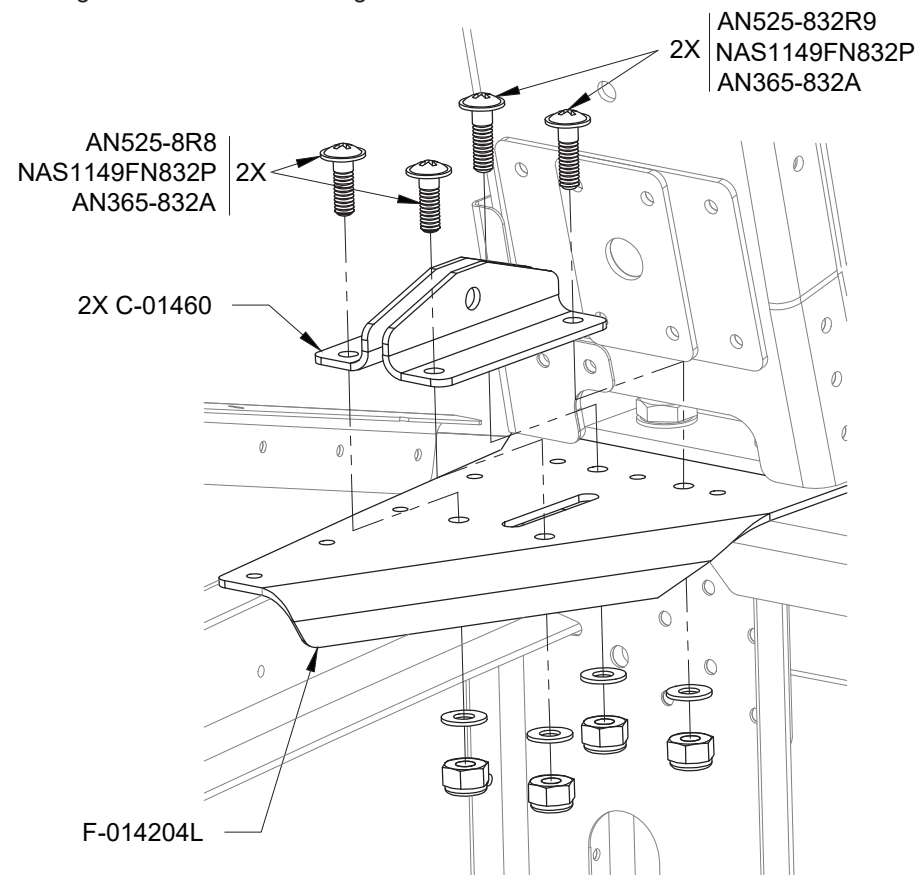

FIGURE 2: LATCH BELLCRANK ANGLE INSTALLATION
Step 9: Install the C-01460 Latch Bellcrank Angles onto F-014204L as shown in Figure 2.